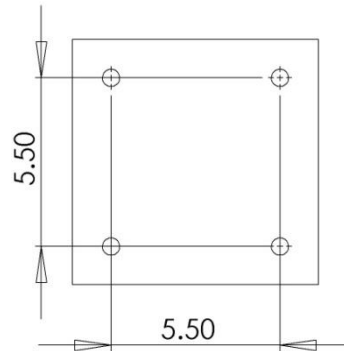

Figure 5: Post-stand mounting-bolt pattern
- ii. The post stand should be bolted to the floor using the hole pattern shown (Figure 5). The post-stand base plate has four 0.55-inch diameter holes